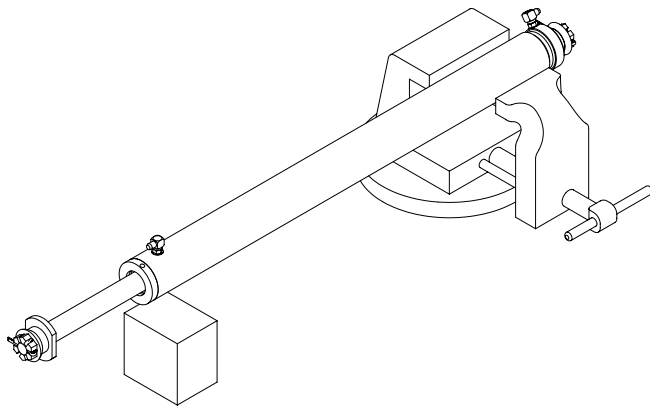

Figure 5-7, Cylinder Vise
2. Clamp the cylinder lightly at the base end in a soft jawed vise. Use a block or other support under the rod end of the cylinder. (Figure 5-7)